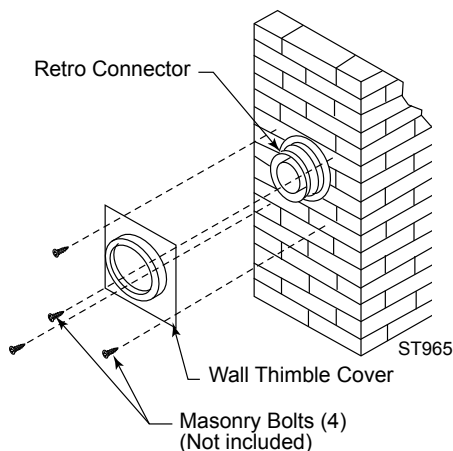
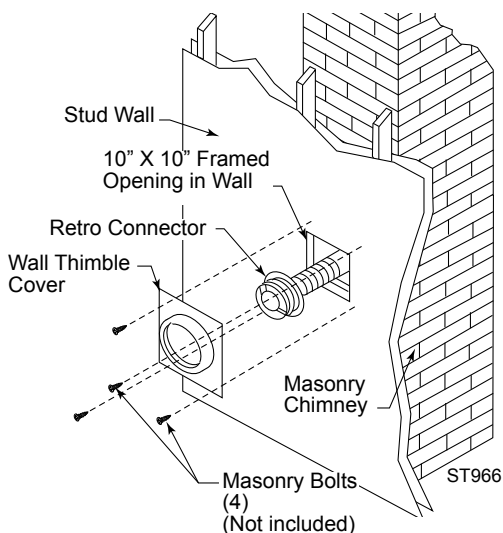

Figure 53
Figure 54
2. Once the center point of the penetration has been determined, cut a 6" (152 mm) diameter hole in the masonry. Be careful, if the hole is too large, the retro connector might not mount properly. If the hole is too small, then the appliance might starve for intake air. If there is a frame wall in front of the masonry wall, cut and frame a 10" (254 mm) clear square opening in the wall (centered around the 6" (152 mm) masonry opening). If there is sheet rock only (no studs) in front of the masonry, the 10" (254 mm) clear opening is still needed, but does not need to be framed. This allows the retro connector to mount directly on the masonry and provide clearance to the combustibles. (Fig. 54)
9. Slide the wall thimble cover (940) over the retro connector and secure the with masonry bolts as shown in Figure 53. If you have a framed wall in front of the masonry, use wood screws to mount the wall thimble cover to the framed wall, over the retro connector and the 10" (254 mm) square framed opening as shown in Figure 54. If needed, add a section of direct vent pipe to the retro connector in order to extend through the opening in the wall thimble cover.